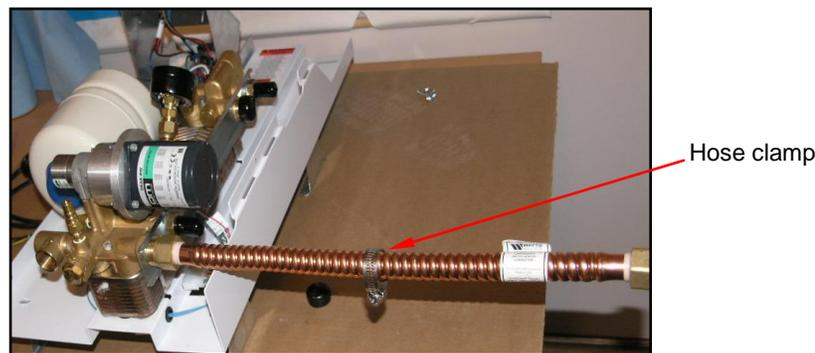

Fig.4.2.1 – Flexible pipe connected to Energy Station. Hose clamp ready to attach thermistor.
7. With Energy Station lying flat on floor or on work bench, connect and tighten flexible corrugated copper pipe with gasket seals to water port at right of lower manifold (*Fig.4.2.1*). Thread sealant or Teflon tape is not required as gasket ensures water-tight seal. Do not over-tighten or gasket may be damaged.